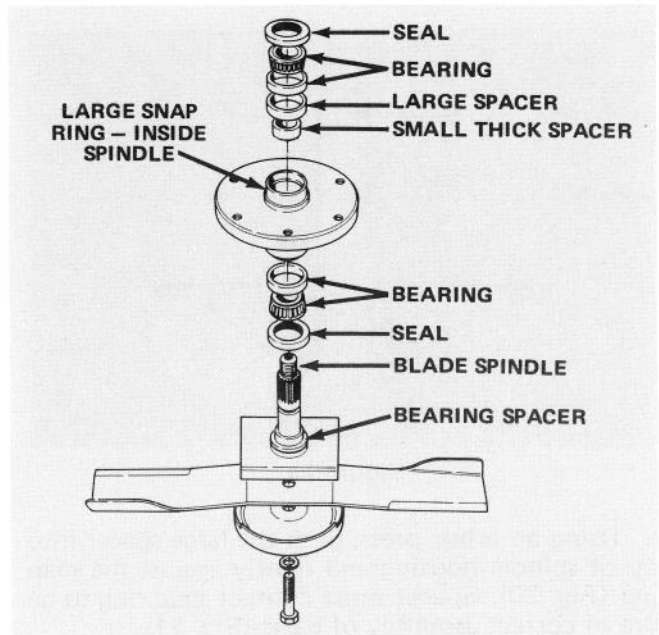
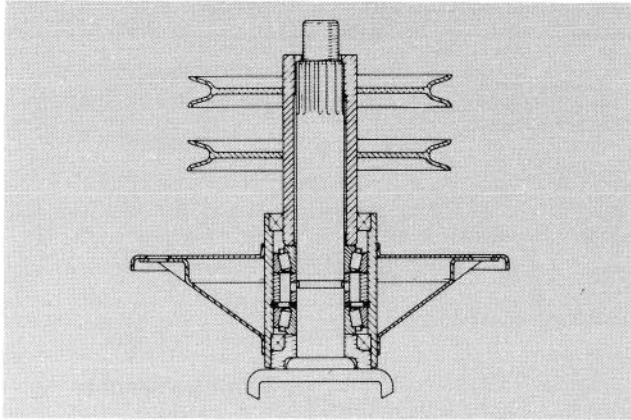
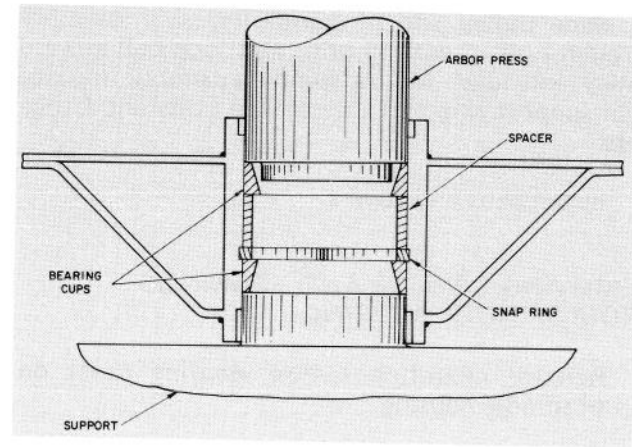

Figure 20
Figure 21
Figure 22
5. If spindle shaft will be replaced, remove blade-bolt, lockwasher, anti-scalp cup, and blade from spindle shaft (Fig. 20). Otherwise, the blade and its other associated parts may be left on the spindle shaft.
6. Press spindle shaft out of spindle housing (Fig. 20), using an arbor press. Bearing spacer (Fig. 20) remains on spindle shaft as shaft is being removed.
7. The seals (Fig. 20) will be removed next; however, notice the lip of the seal. The lip of the
8. Allow bearings and small thick spacer to fall out of spindle housing (Fig. 20).
9. Using a punch and hammer, drive both bearing cups (Fig. 20) out of spindle housing. Also drive large spacer (Fig. 20) out of housing.
1. Install large snap ring into groove in bore of spindle housing (Fig. 21). Assure snap ring is seated in the groove.
2. Using an arbor press, push the large spacer into top of spindle housing and tightly against the snap ring (Fig. 20). Spacer must contact snap ring to be sure of correct assembly of parts (Fig. 21).
3. Thoroughly oil cups and using an arbor press, push bearing cups — smallest ID first — into top and bottom of spindle housing (Fig. 20). Top bearing cup must contact spacer that was installed in step 2, and bottom bearing cup must contact snap ring to be sure of correct assembly of parts (Fig. 21). Insure assembly is correct by supporting the first cup and pressing the second against it (Fig. 22).
4. Apply a film of grease on lip of both seals; then install bearing and seal into bottom of spindle housing (Fig. 21). Remember though, the bottom seal must have the lip facing outward (Fig. 20) not toward inside of spindle housing.
5. Slide small, thick spacer into spindle housing (Fig. 20). Then, install bearing and seal into top of spindle housing. Lip of the seal must face outward.
7. Slide bearing spacer onto spindle shaft. Carefully slide spindle shaft through spindle housing. Bottom seal and bearing spacer fit together when spindle is installed (Fig. 21).